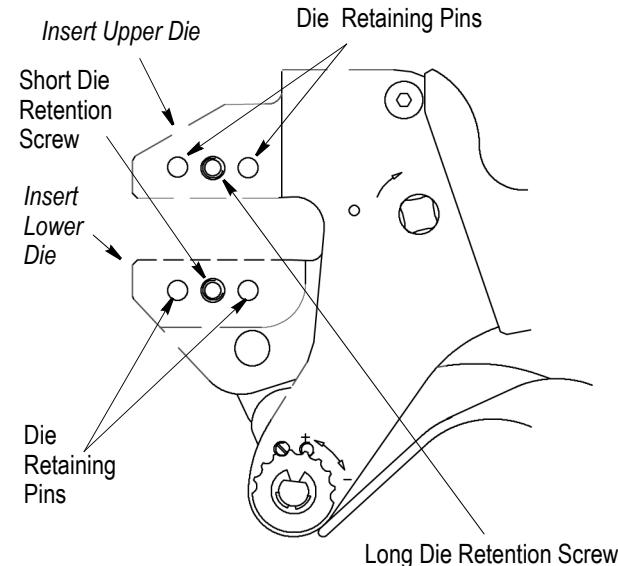

Figure 3
3.2. Installation of Pinned Dies (Figure 3)